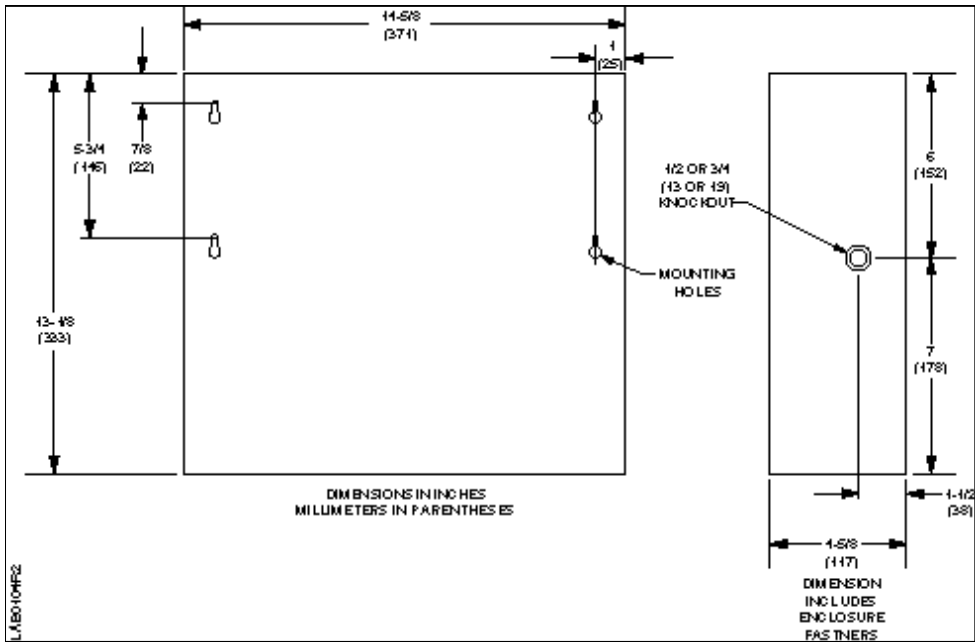

Figure 1. Enclosure Dimensions and Knockouts.
2. Remove the appropriate conduit knockouts. See Figure 1.